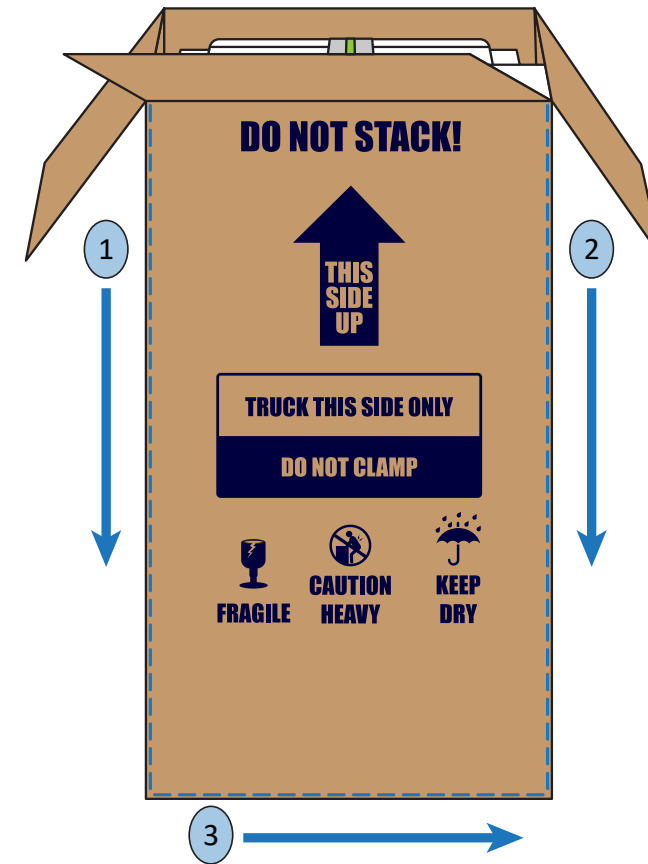

Figure 1-3b. Removing the “TRUCK THIS SIDE ONLY” side of the carton.
2) Using a utility knife, remove the “TRUCK THIS SIDE ONLY” side of the shipping carton (see figure 1-3b). Carefully cut down the ① left and ② right sides of the box. Let the flap fall to the floor, then ③ cut across the bottom edge (taking care not to damage the floor).